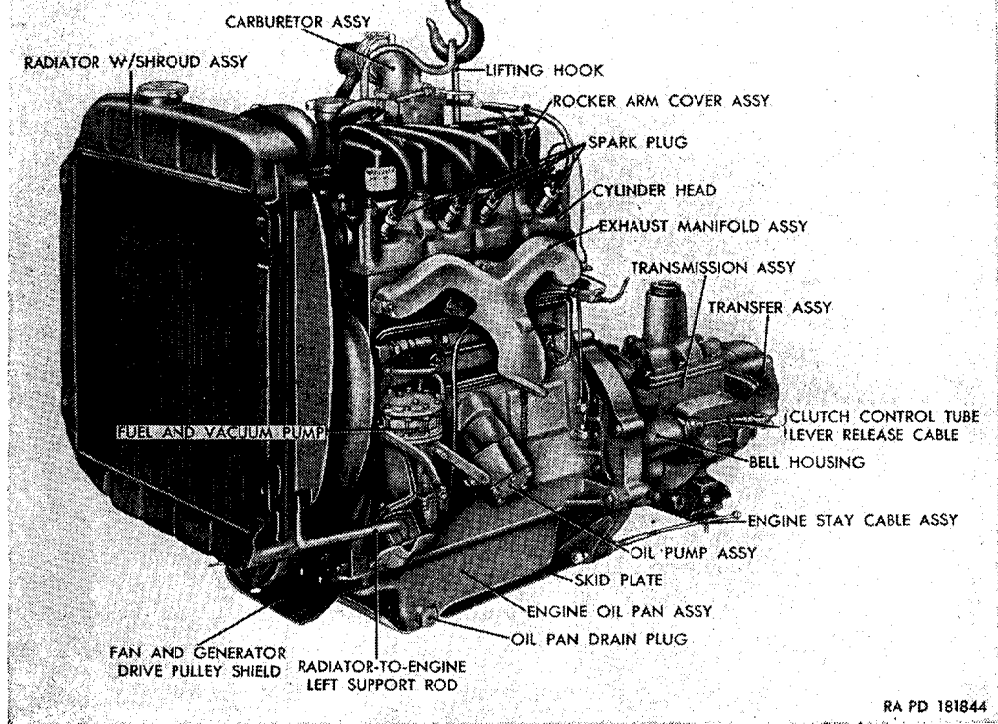

Figure 52. Power plant removed—left front view.
a. Preliminary Operations. The power plant (figs. 52 and 53), which consists of the engine, clutch, transmission, transfer, and radiator, must be removed from the vehicle as a unit before removing any of the individual components. It is not necessary to drain the radiator, crankcase, transmission, or transfer before removing the power plant.
- (1) Remove the hood (par. 255*c*).
- (2) Disconnect the battery ground cable (par. 162*b*(8)(*a*) and (*b*)).
- (3) Remove the radiator guard (par. 257*a*).